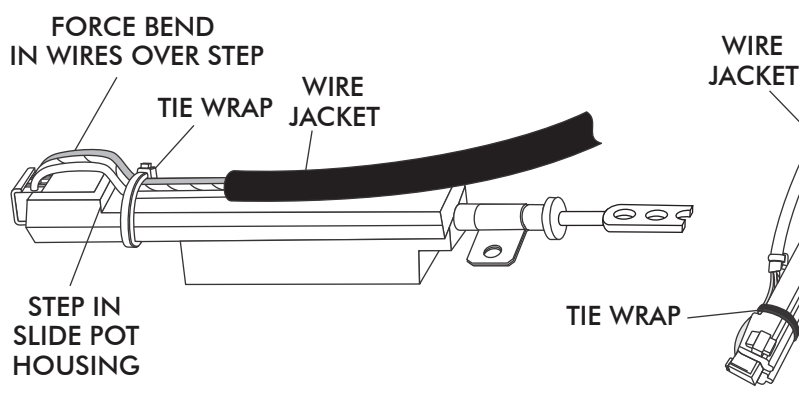

FIGURE 6b
- ONCE WIRES ARE CORRECTLY PLUGGED INTO SLIDE POT ASSEMBLY, SECURE WIRES TO THE SLIDE POT ASSEMBLY USING TIE WRAPS (SUPPLIED). SEE FIGURE 6b, BELOW. THE TIE WRAP MUST BE LOCATED BETWEEN THE END OF THE WIRE JACKET AND THE STEP IN THE SLIDE POT HOUSING FORCING A BEND IN EACH WIRE AS THEY PASS OVER THE STEP IN SLIDE POT HOUSING. HEAD OF TIE WRAP MUST FALL ON EDGE OF HOUSING AS SHOWN TO REMAIN TIGHT. ENSURE THAT THE TIE WRAPS ARE SNUG ENOUGH THAT THE WIRES CANNOT MOVE. SEE FIGURE 6b.